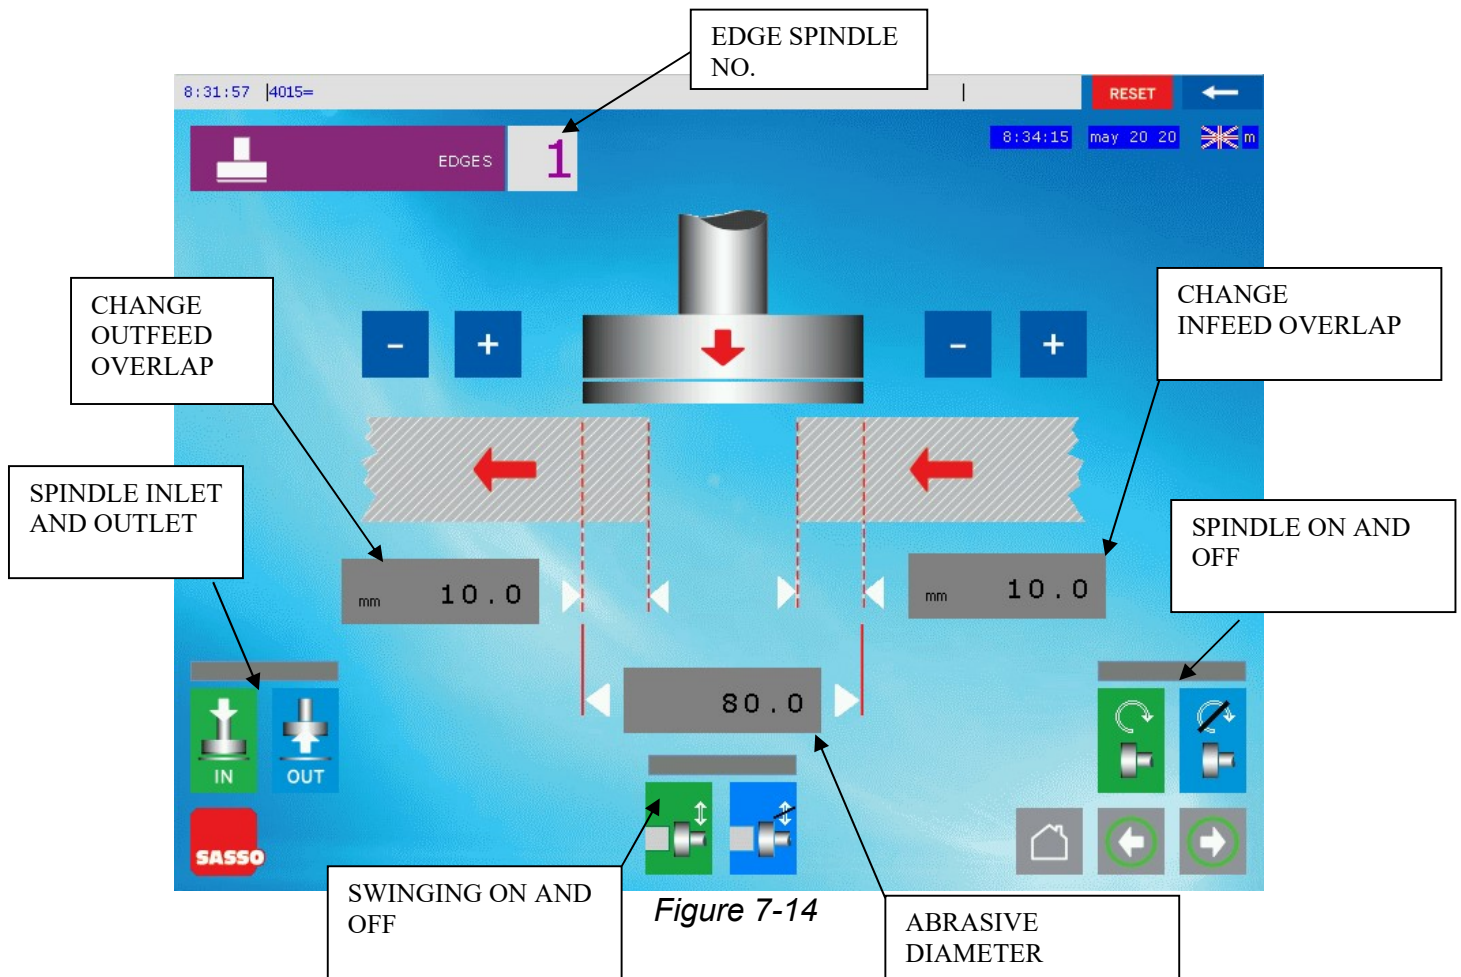

Figure 7-14
**N.B. Perform this machining without using a forming diamond and, therefore, disable the machining of the oscillating bar's first spindle by pressing the relevant icon on the HOME page, making sure it turns grey (see *Figure 7-1*), or equip the first head of the oscillating unit with abrasive (see *Figure 7-14*).**
As shown in **Figure 7-14**, you can also verify the correct rotation of the spindles using the buttons at the bottom right, the correct inlet and outlet using the keys at the bottom left and correct operation of swinging with the keys at the bottom centre (as with all other cases, the activation key is green and the stop key blue).